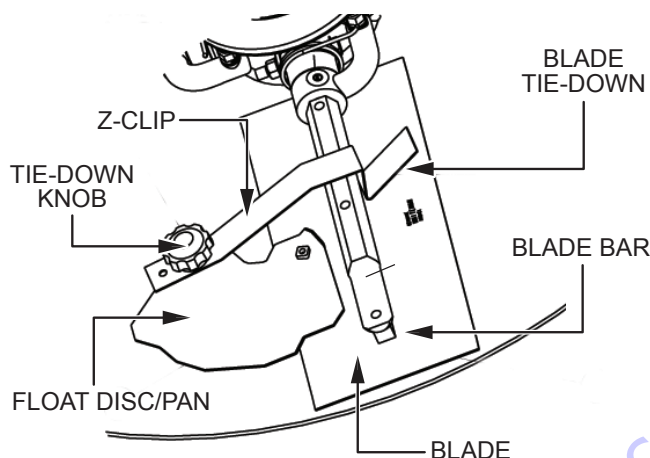

Figure 16. Float Pan Installation (Z-Clips)
1. Lift the trowel just enough to slide the float pan under the blades. Lower the trowel onto the pan with the blades adjacent to the Z-clips (Figure 16).
3. Secure the blade tie-downs to the far side of the Z-clip brackets with the tie-down knobs (Figure 16).
4. Make sure the blade edges are secured under the Z-clips, and the tie-downs are secured completely over the edges of the blade bar (Figure 16).